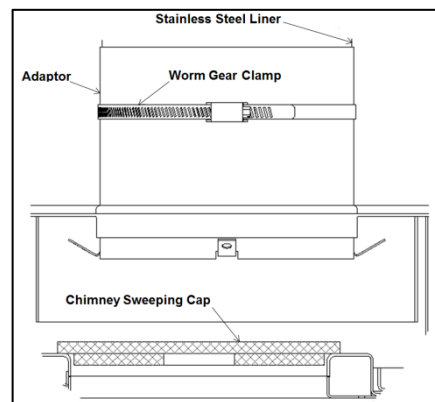

Figure 19: Liner Adaptor Installation
- b) Align the liner adaptor with the flue of the insert (see Figure 19).